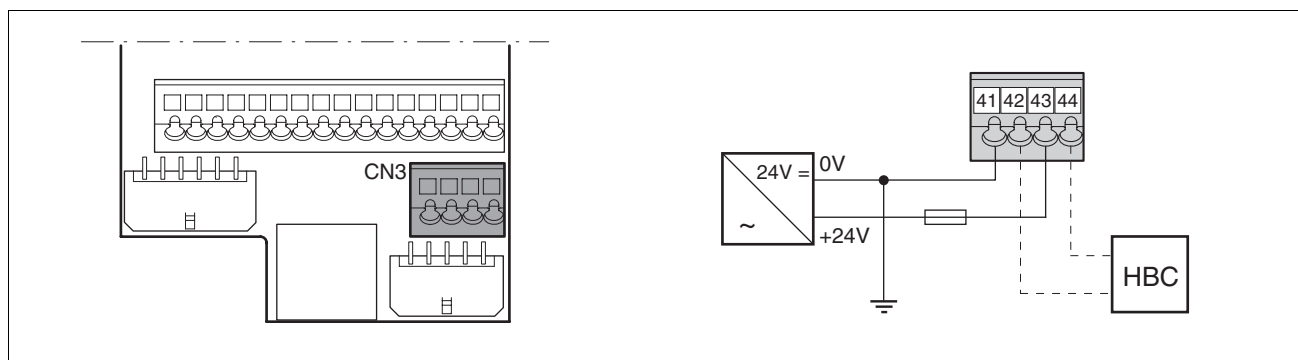

Figure 6.16 Controller supply voltage wiring diagram
- Terminal CN3, pin 42 and 44 (see chapter Figure 6.16) can be used as a 0V/24V terminal for additional consumers. Note the maximum terminal current, see Technical Data, from page 23.